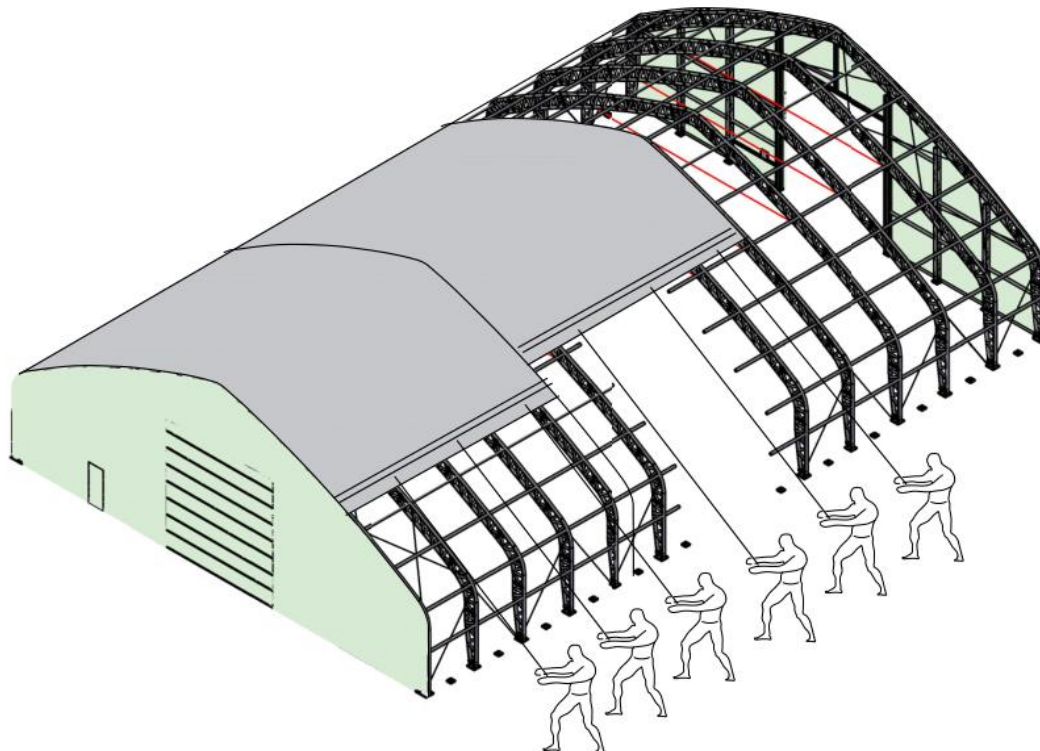

Figure 12
3. For 7012028DP, there are three pieces of roof cover, attach the ropes and throw over the frame. Then pull every roof cover **EVENLY, CAREFULLY AND SLOWLY** one by one. See Figure 12 and 13 for your reference.